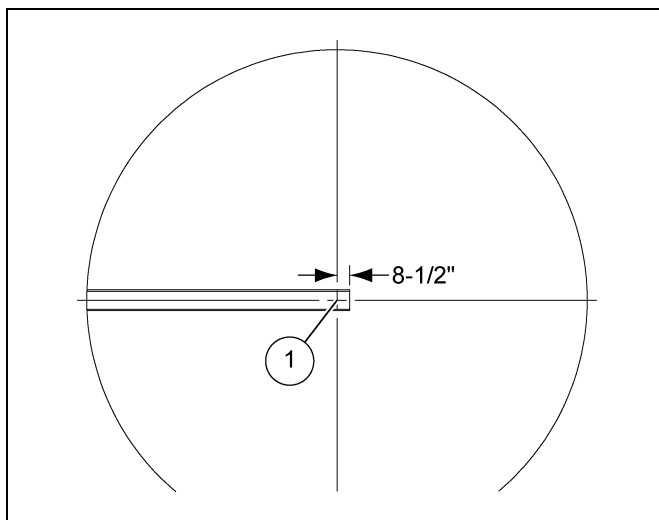

Figure 4J
1. When constructing the concrete foundation, form a knock-out for the unload as shown in Figure 4J. This is the preferred method of installing the unload in concrete. When installed in this manner unloads can be removed at a later date.